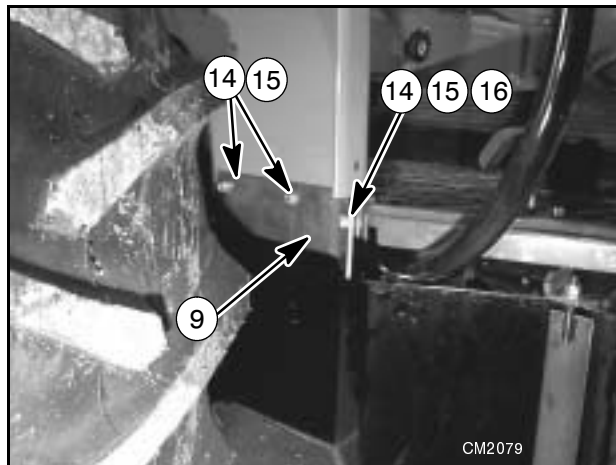

Figure 20 Hose Retainer Installed
2. Position the hose retainer to keep the hoses from touching the tractor tire as shown in Figure 20. To attach the hose retainer, use new cap screw (14), lock washer (15), and flat washer (tractor part) as shown in Figure 19 and Figure 20.